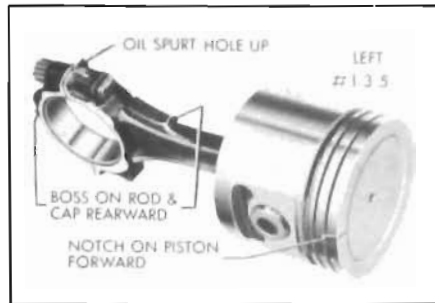

Figure 2-38—Left Bank Piston and Rod Assembly
7. Remove compression rings with expander and remove oil ring by removing the two rails, and spacer-expander which are separate pieces in each piston third groove. See Figures 2-38 and 2-39.
the assembly must be made as shown in Figure 2-38.
16. Install all other piston and rod assemblies in same manner. When piston and rod assemblies are properly installed, the oil spurt holes in the connecting rods will be "up" toward the camshaft, the rib on the edge of the rod cap will be on the same side as the conical boss on the connecting rod web, and these marks, (rib and boss) will be toward the other connecting rod on the same crankpin. See Figures 2-38 and 2-39.